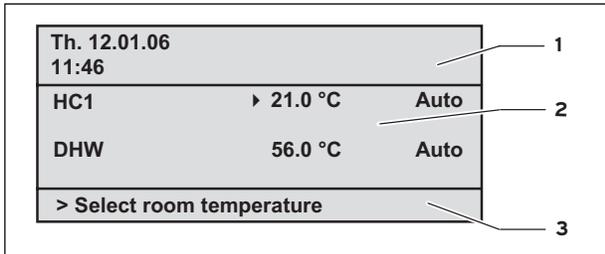

Fig. 4.2 Overview displays (example basic display)
- basic display (Fig. 4.2)
The operating concept described below applies to the basic display (Fig 4.2) and to different screens in the user level.
Start situation: You are in the basic display (see Fig. 4.2). The way you get to the basic display is described in Chapter 4.3.3.
By clicking either dial you can proceed from the default display to the next screen (see Fig. 4.2).